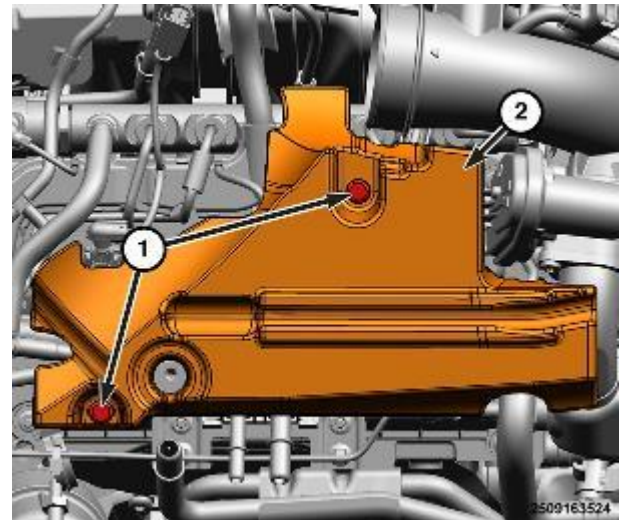

Figure 184 – Left Fuel Rail Cover
- 20. Remove the left fuel rail cover bolts (1) and the left fuel rail cover (2) (Figure 184).